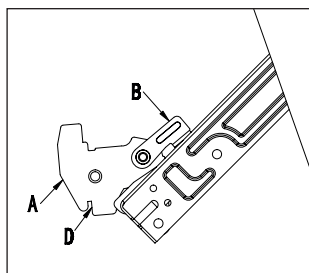

Fig.11-1
- Open the door completely and lift the 2 levers "B" (fig.11-1);